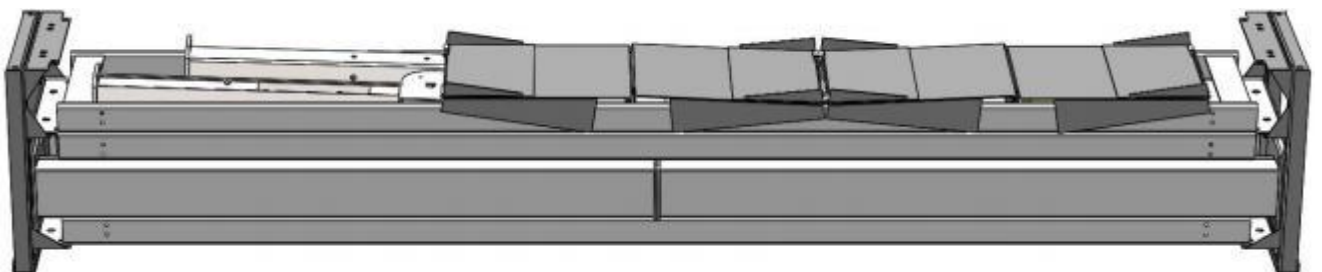

Fig. 10
3. Loosen the bolts of the upper package, then take out the offside platform on the top. (See Fig. 10)